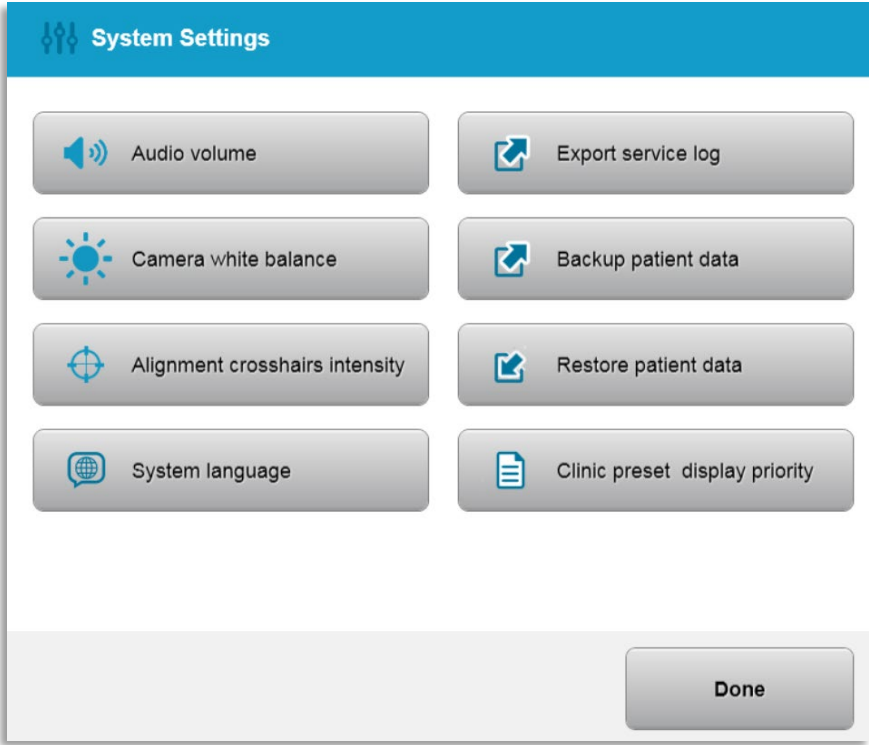

Figure 3-52. System Settings Menu
- o Select “System settings” from the Options menu to access the System settings shown in Figure 3-52.